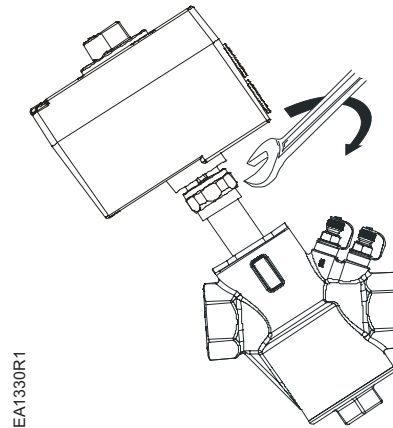

Figure 6.
- Use a 1-1/4-inch open-end wrench to tighten the coupling piece to a maximum of 22 ft-lbs. See Figure 6.